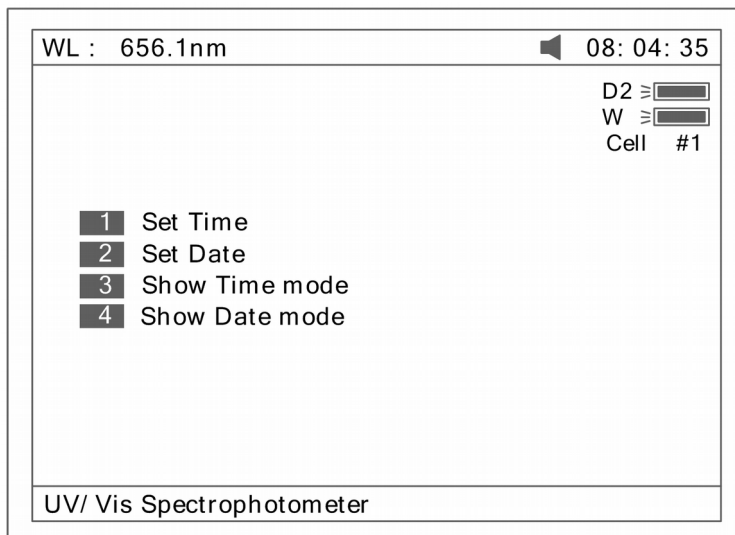

Fig 87
4. Press **(4)** in Fig 85 to set the time display on the top right corner of the screen (Fig 87).